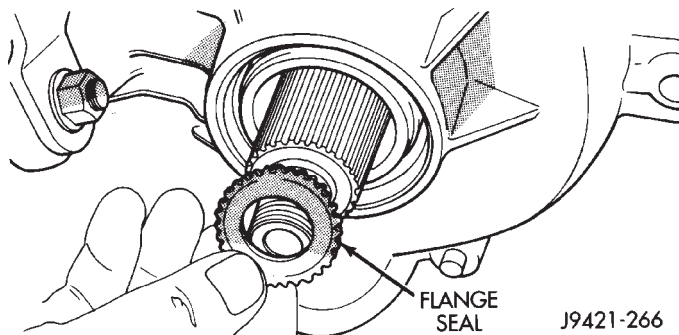

Fig. 22 Companion Flange Seal Removal
(4) Remove companion flange rubber seal from front output shaft (Fig. 22).